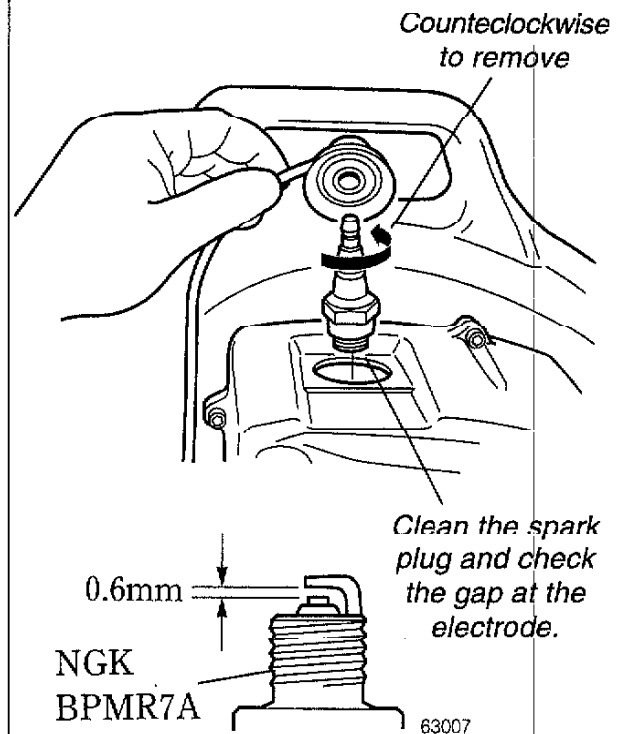

Figure 13
1. Use the spark plug wrench to remove the spark plug. See Figure 13.